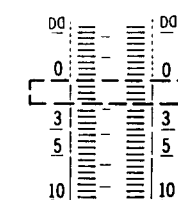

Fig. 11
4. Adjust VR703 (L-CH) (VR704 (R-CH)) so that the 0 dB segment part is half lighted. (See Fig. 11.)